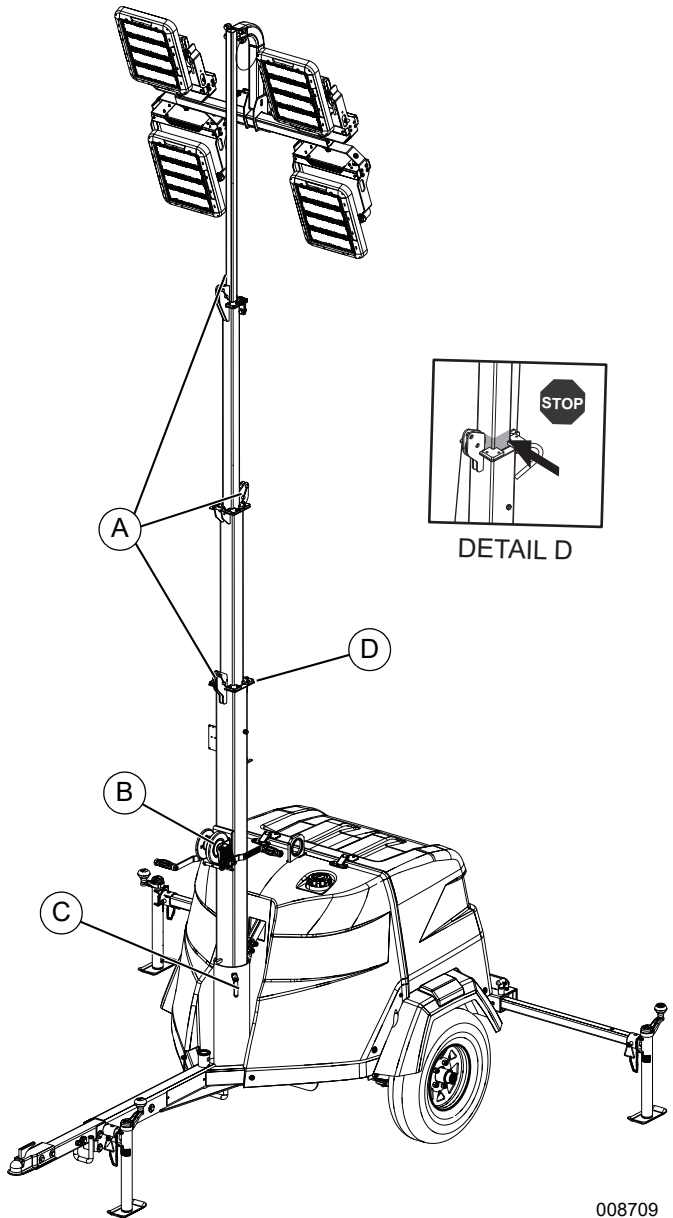

Figure 3-2. Pulley Locations—Manual Winch
2. See Figure 3-2. Inspect the mast cables for excessive wear or damage. Verify the cables are properly centered in each pulley (A). Inspect the electrical cord for damage.
3. Rotate the mast by loosening the mast rotation knob (C) at the bottom of the mast. Turn the mast until the lights face in the desired direction. Tighten